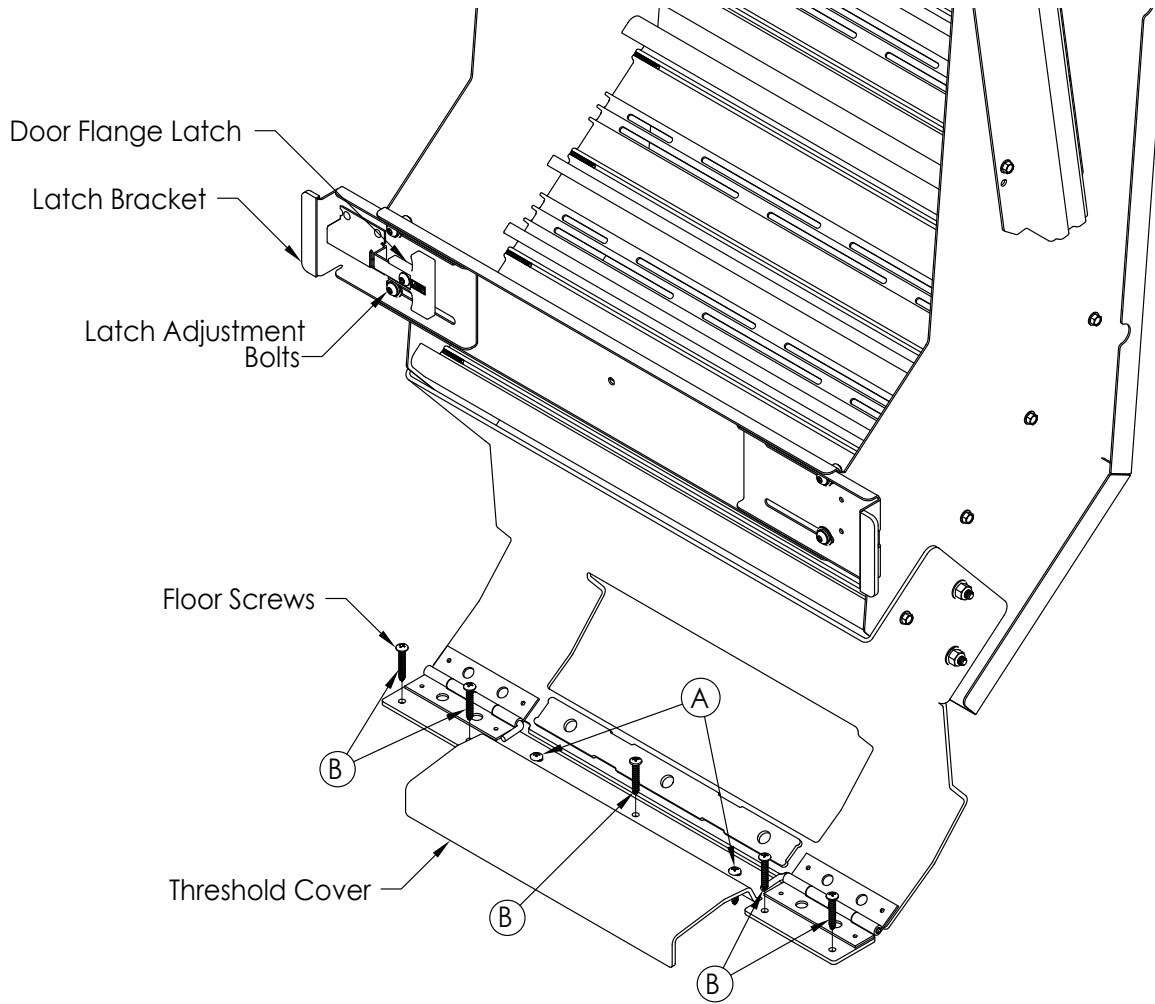

Figure 3
1. With one hand, lift staircase until treads are level. With the other hand, depress leg latch on back side of leg housing to allow legs to extend and contact the ground as shown in **Figure 3**. Fine adjustments may be needed to accommodate uneven terrain.
- The legs are retained within their leg housings to ensure they are not inadvertently removed completely during deployment. The retainment spring button may be depressed to fully remove the leg if deep cleaning is desired. To disengage the retainment mechanism refer to **Figure 3**.